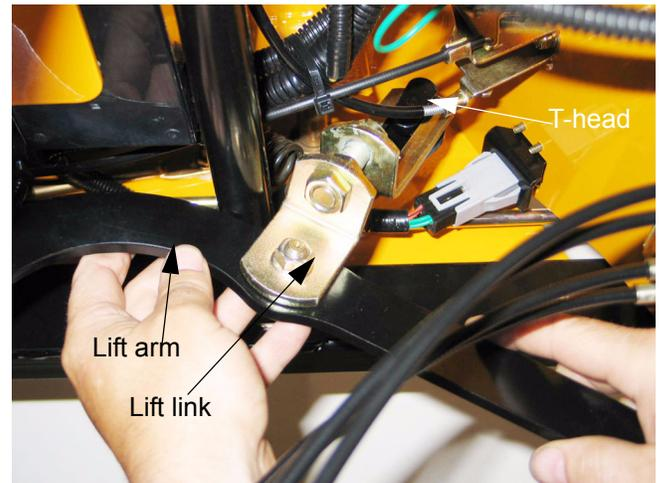

Figure 14.7
- 14.7. Disconnect and remove each lift arm and lift link assembly. See Figure 14.7.